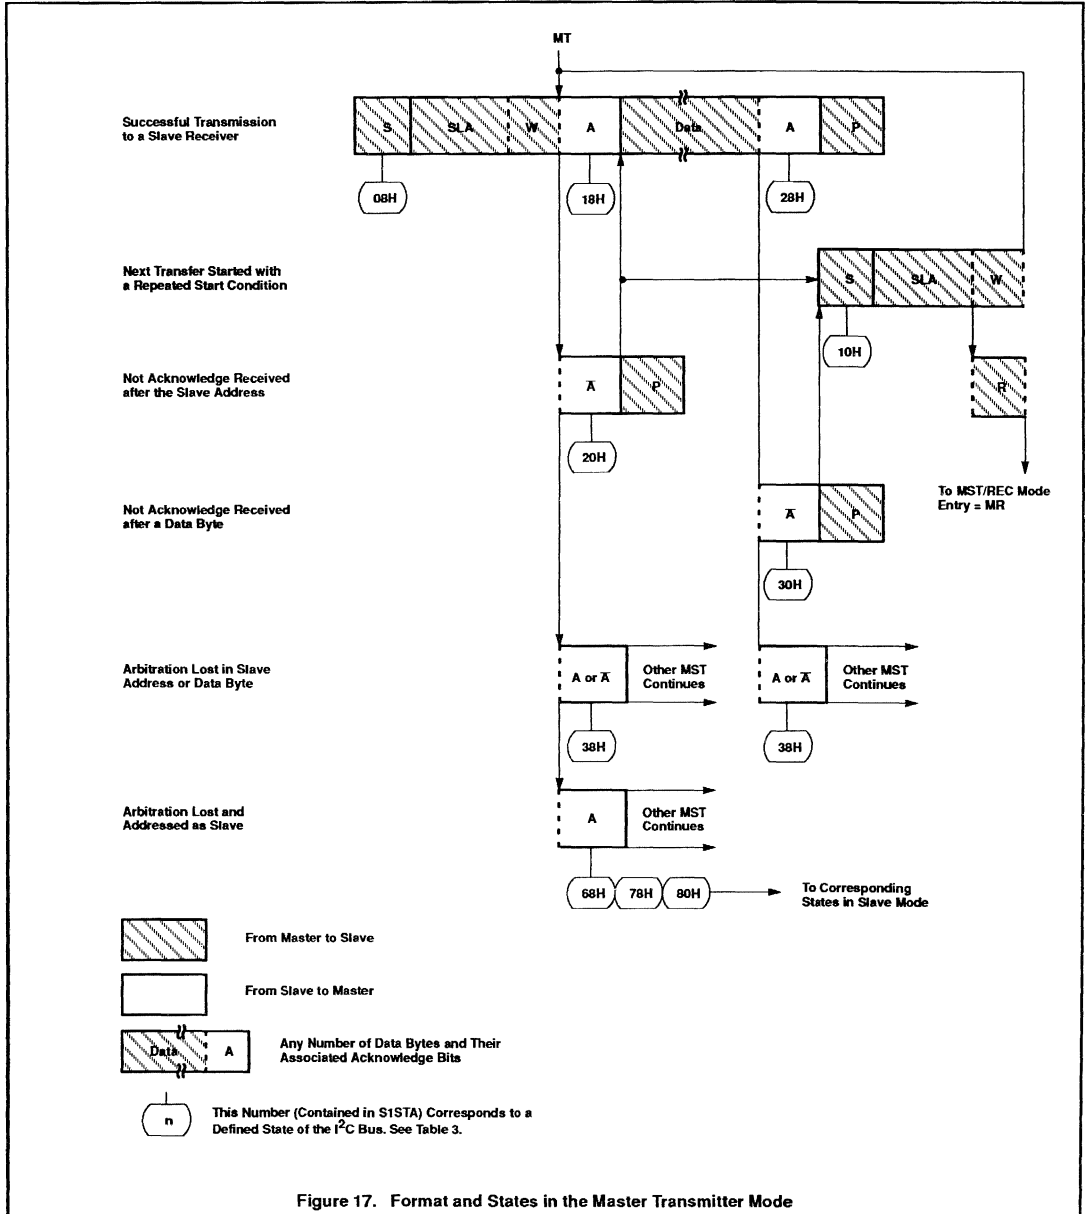

Figure 17. Format and States in the Master Transmitter Mode
Data transfers in each mode of operation are shown in Figures 17–37. These figures contain the following abbreviations:
**Master Transmitter Mode:** In the master transmitter mode, a number of data bytes are transmitted to a slave receiver (see Figure 17). Before the master transmitter
Arbitration may be lost in the master transmitter and master receiver modes (see Figure 13). Loss of arbitration is indicated by the following states in S1STA; 38H, 68H, 78H, and B0H (see Figures 17 and 18).